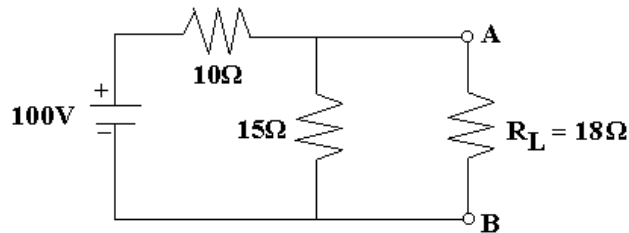

Fig.1
- Q.33** For the circuit shown in Fig.1, find the current in the load resistance $R_L=18\Omega$ and the voltage across it by Norton's theorem and verify the result by applying Thevenin's Theorem. **(8)**